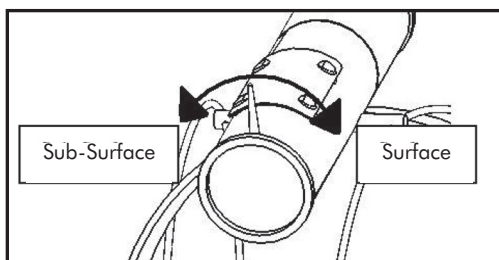

Figure 4. Polarization Adjustment
- 3) Gently grasp the adjustment peg and rotate it as shown in Figure 4.